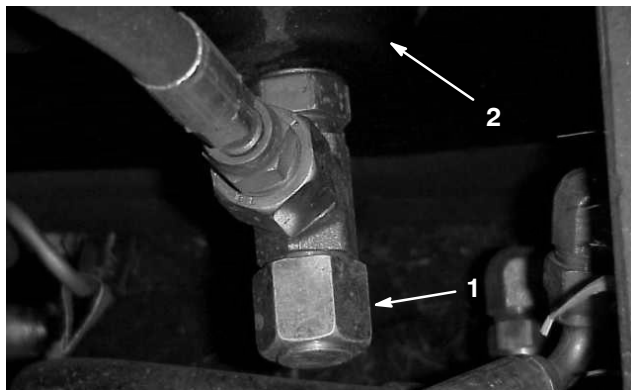

Figure 52
- Locate plugs at right rear behind front wheel, at rear center and front center of reservoir (Fig. 52).
1. Place drain pan under reservoir. In turn, remove all 3 drain plugs and let oil drain into pan (Fig. 52).